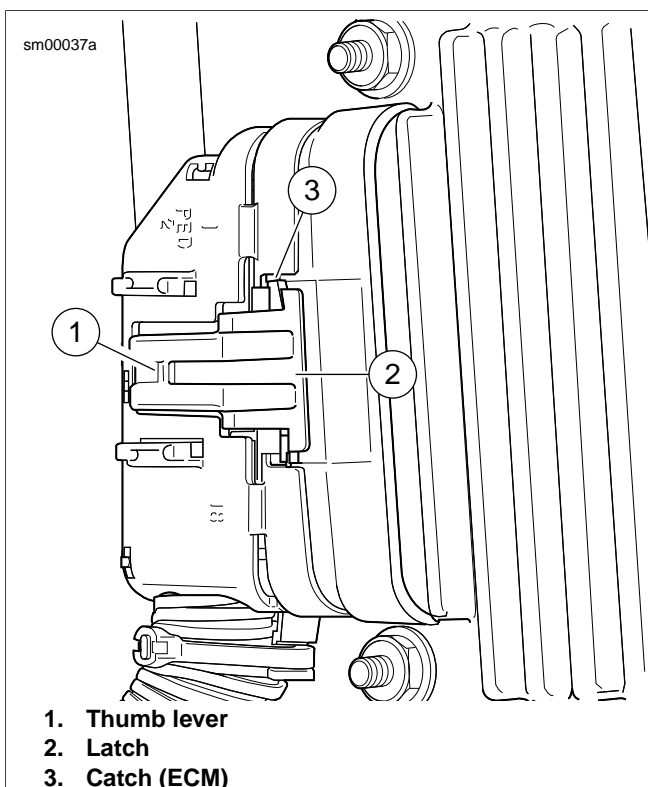

Figure A-6. Delphi 100W Micro-Pack Sealed Connector to ECM
See Figure A-6. While pressing the connector into the ECM, press the thumb lever (1) against the connector until the latch (2) pops out of the catch (3) on the ECM.